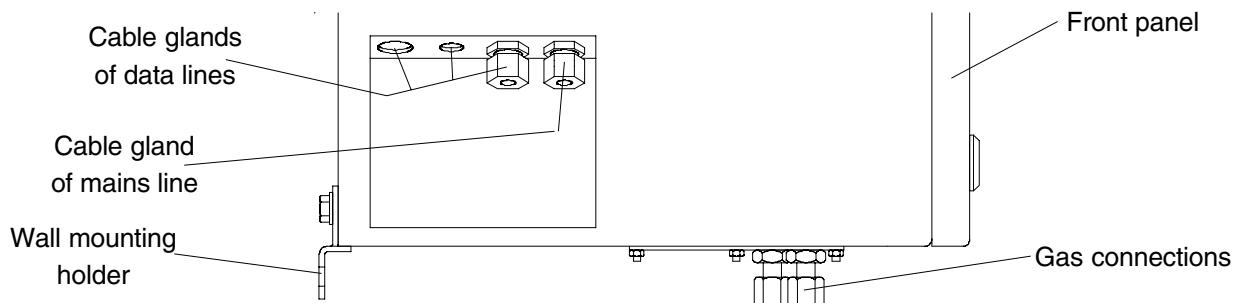

Fig. 5-7: MLT 2, PG fittings for lines (side view from left)
- Insert mains cord into the housing utilizing the cable gland marked in fig. 5-7.
- Take lines via cable glands (Fig. 5-7) inside the housing.